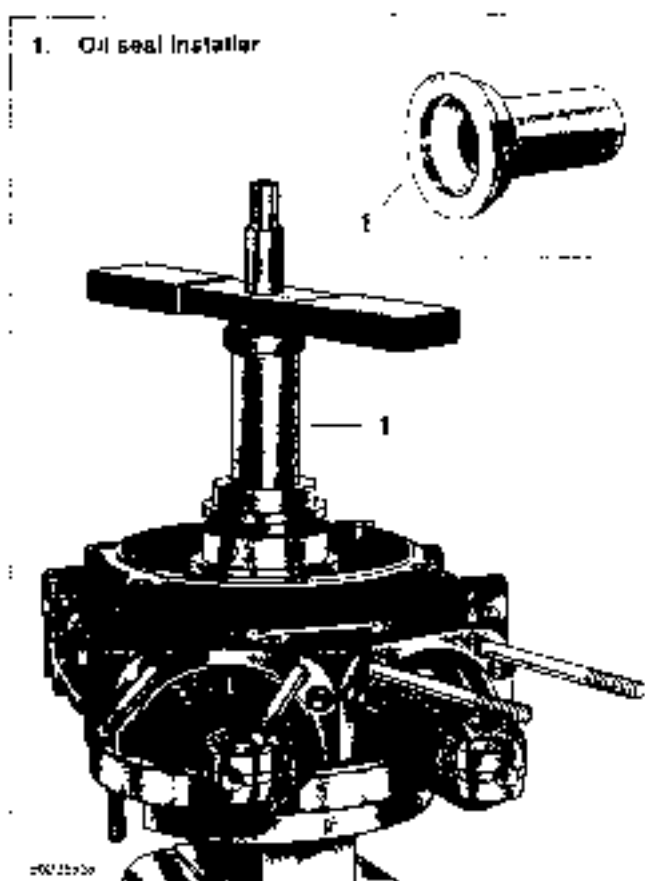

Figure 3-63. Sprocket Shaft Oil Seal Installer
12. See Figure 3-63. Install new oil seal using pilot, Nice bearing, large flat washer and handle from SPROCKET SHAFT BEARING TOOL (Part No. HD-97225-55B).
- d. Set SPROCKET SHAFT OIL SEAL INSTALLER (1) (Part No. HD-39361-A) over pilot until it contacts oil seal.